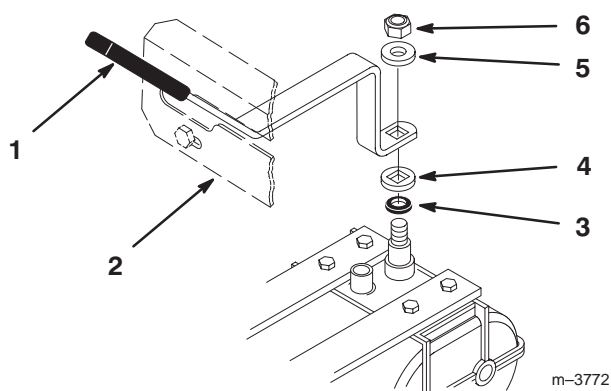

Figure 10
1. Remove the locknut (3/8 inch) and spring washer from the stud on top of the transmission (Fig. 10).
2. Slide the shift lever through the control panel and align the mounting hole in lever with square on transmission shaft (Fig. 10).
3. Secure lever to transmission with previously removed spring washer and locknut (Fig. 10).
4. Replace the spring washer, dish down, and locknut (Fig. 10).